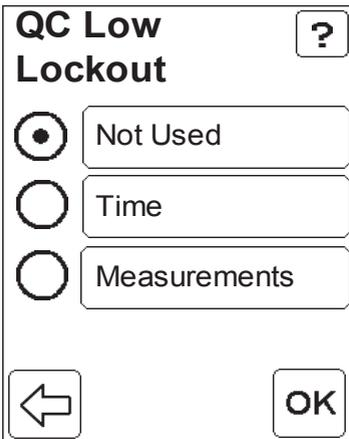

FIGURE 4-66
- Low (See FIGURE 4-66)
If Measurements was selected in the QC lockout menu (see *FIGURE 4-66*), the setting for the QC lockout based on the number of patient or STAT test measurements performed is displayed.